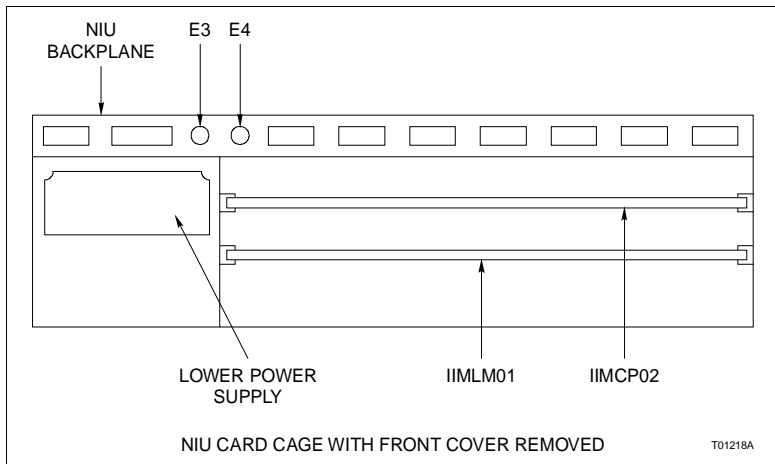

Figure PR32-2. NIU Card Cage with Covers Removed
- 5. Unplug and remove the IIMCP02 module from the NIU backplane (Fig. PR32-2).